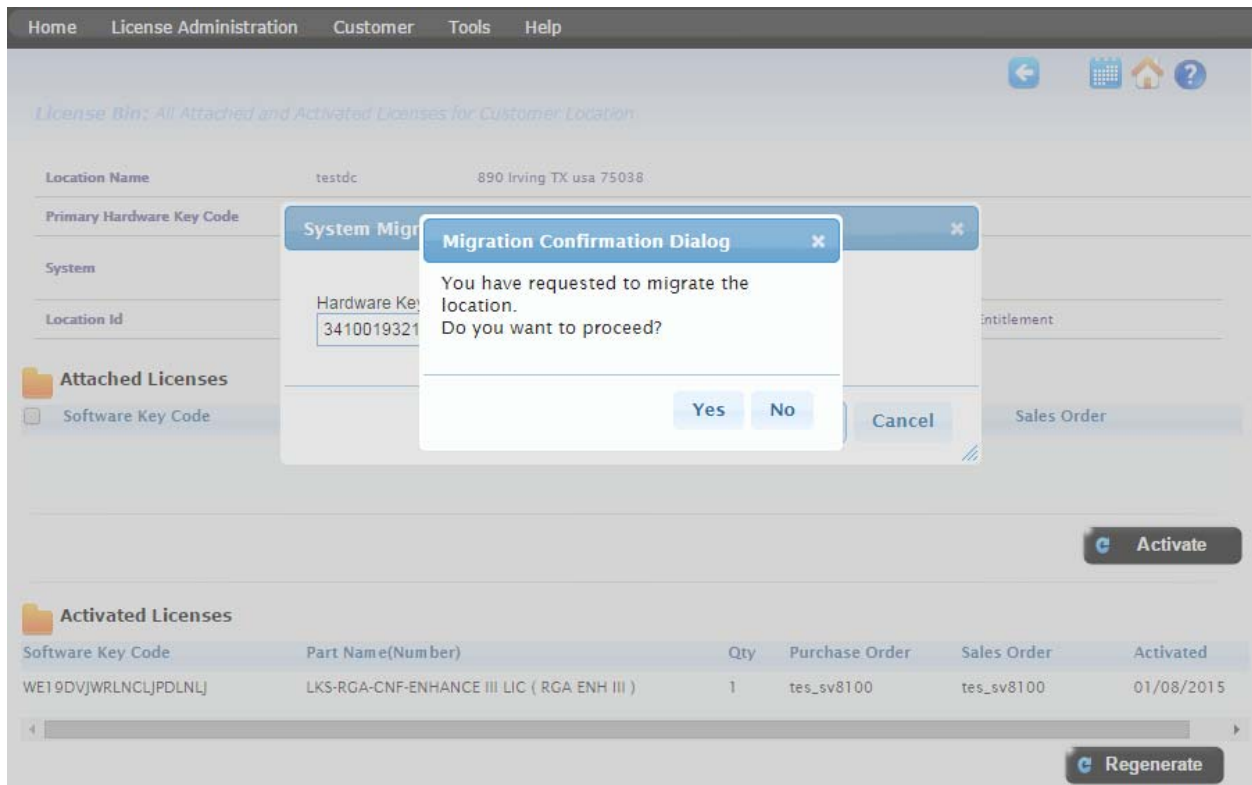

Figure 3
- The user will need to enter the hardware key code of the new system and click 'Submit.' Upon submission a confirmation box will appear to the user as shown in Figure 3. If the user selects 'Yes' the LMS validates the HKC.